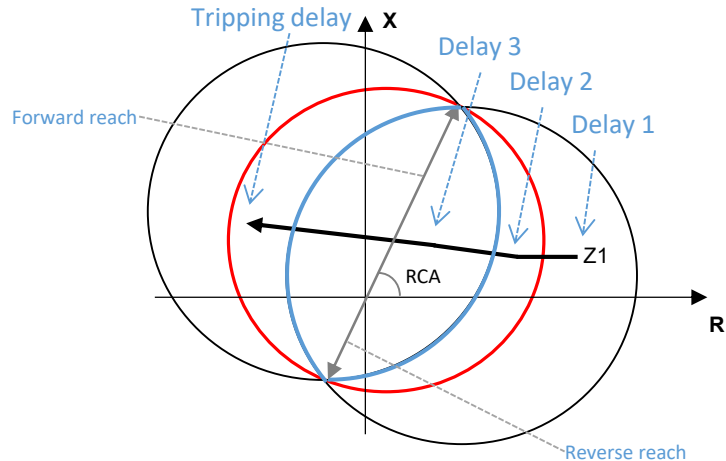
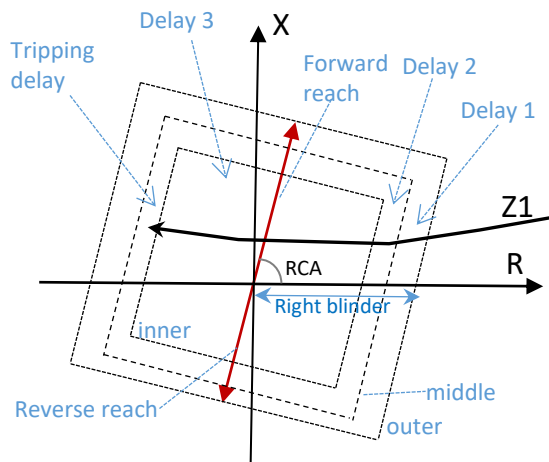

Figure 1-1 Power swing scheme
Figure 2-2 Quad shapes.
In the “Operating Characteristic based detection” the power swing detection is based on 3 zones: the outer zone (black in Figure 1-1), the middle zone (in red) and the inner zone (in blue). The detection occurs when the measured impedance locus travels through the zones with a certain timing. To accelerate the detection of the Out-Of-Step condition, a two-zone detection can be chosen. In that case, the middle zone can be bypassed.
- ❑ **Delay i :** Delays in each zone i for power swing detection. (See Figure 1-1 and Figure 2-2)